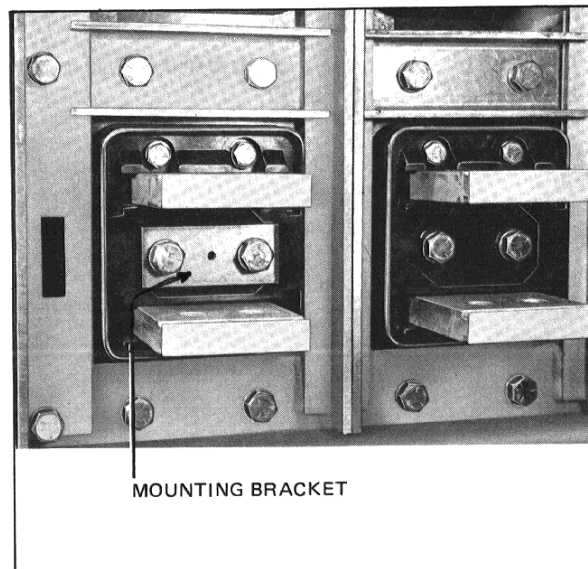
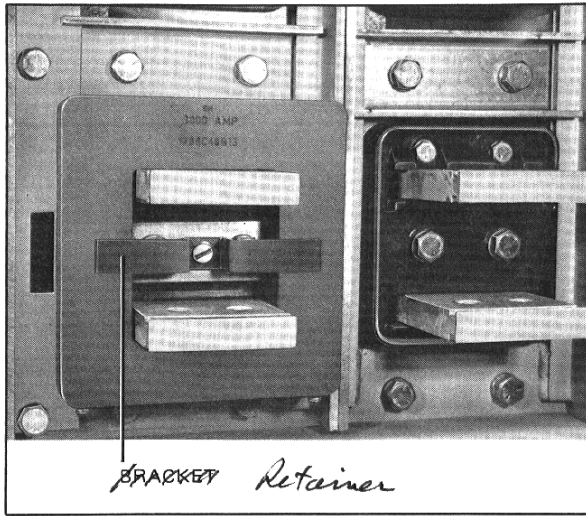

Fig. 34 Sensor Mounting Bracket DB-75/100
Fig. 35 Sensor Mounted in Place with Retainer
8. Remove the finger clusters from the three lower studs, remove the two (2) .50-13 x 1.25 bolts located directly in the middle of the studs. Place the sensor mounting bracket with the nipples facing the two holes from where the bolts were removed and secure with two (2) .50-13 x 2.5 © bolts and washers, (Fig. 34). Slide the sensors onto the studs, do not force the sensors on, due to close tolerances the sensor may be inched from side to side to get them properly mounted. Once the sensor is up against the back plate secure it with the mounting bracket using the .25-20 x .50 panhead screw, (Fig. 35). The sensor must be mounted with the end marked with the letters "SH" on top. These sensors have a special shield to minimize the effect of stray flux.